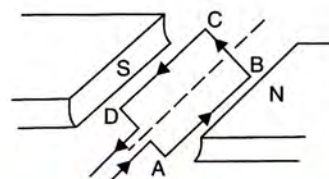

Fig. 10.28
8. A coil ABCD mounted on an axle is placed between the poles N and S of a permanent magnet as shown in Fig. 10.28.